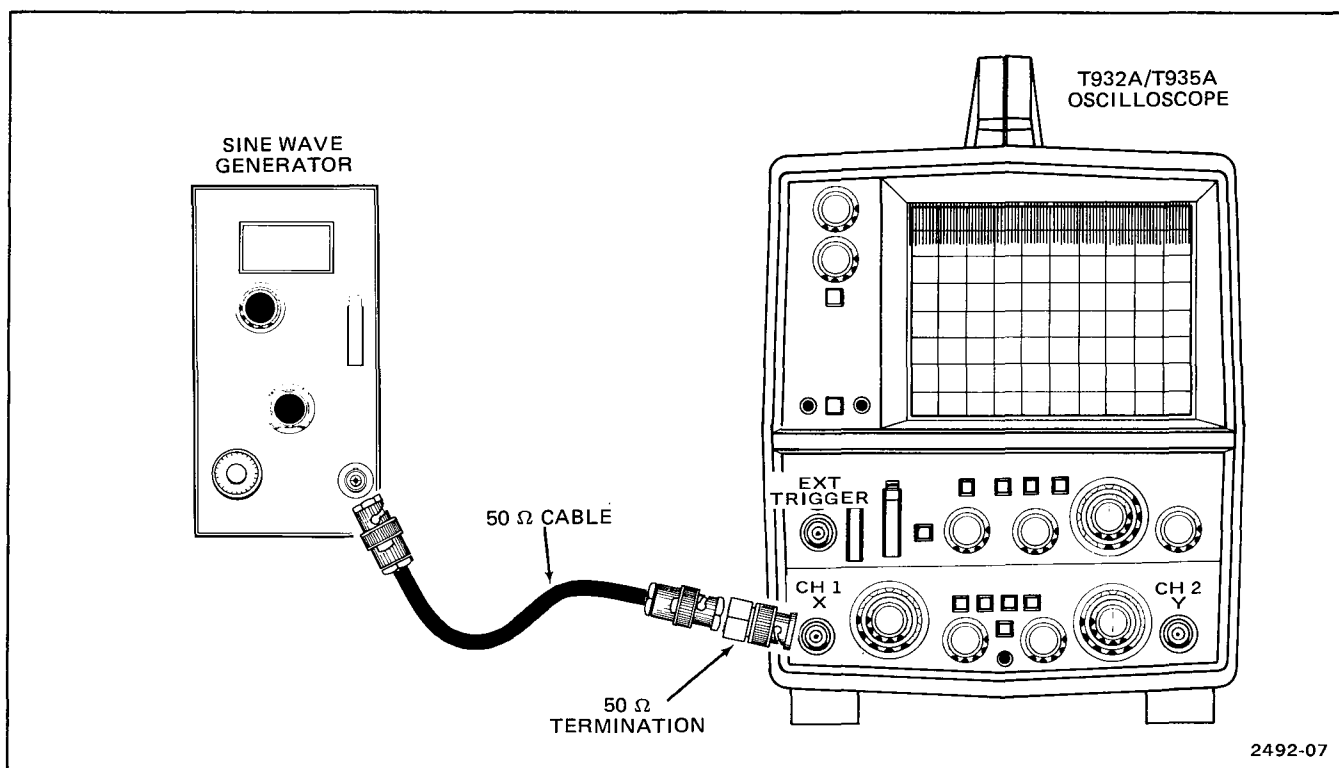

Fig. 3-2. Bandwidth check test setup.
a. Connect test equipment as shown in Fig. 3-2.